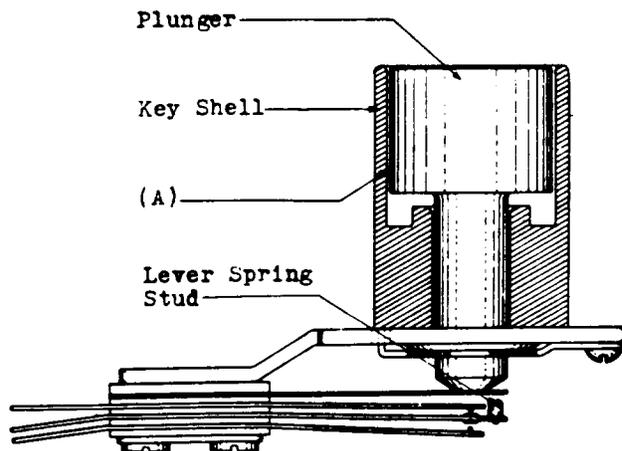

Fig. 1
2.02 Plunger Movement - Fig. 1 (A) - The plunger shall operate freely in the key shell. Gauge by feel.